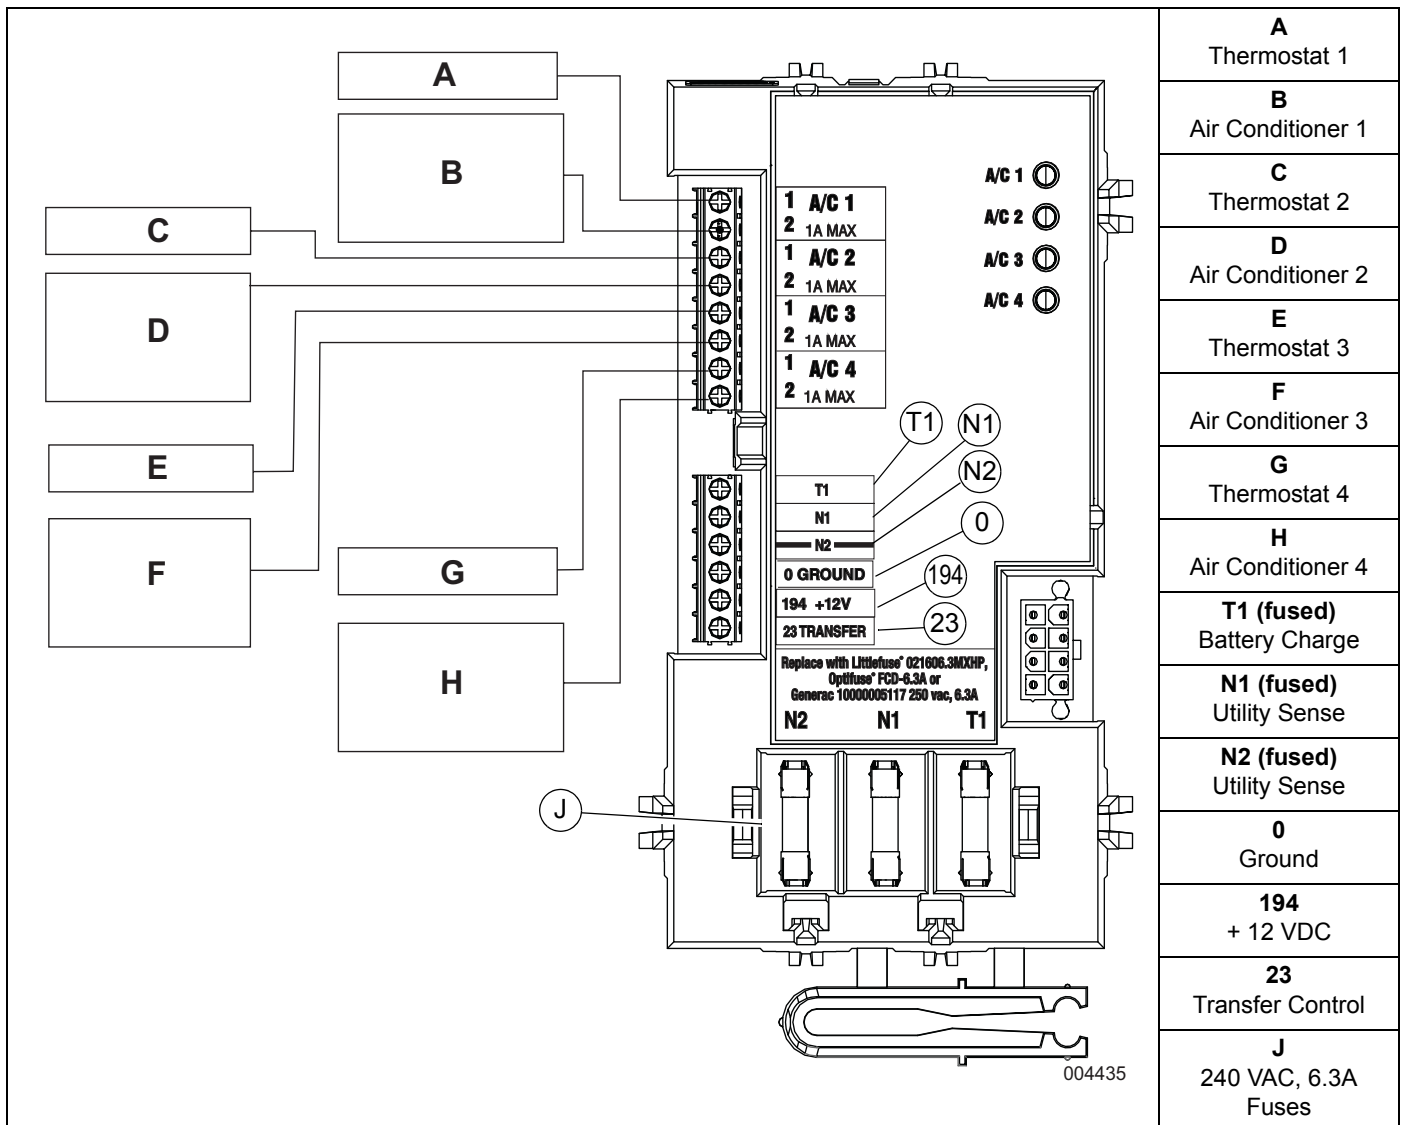

Figure 3-3. Typical SACM Connections
Control system interconnections consist of N1, N2, and T1, and leads 23, 0, and 194 (see Figure 3-3). The generator control wiring is a Class 1 signaling circuit. Reference instruction manual of specific engine generator for wiring connection details. Screw heads are straight bladed and cross-bladed, and should be tightened to 3.5 in-lb (0.4 Nm).
See Figure 3-3. The SACM can control an air conditioner (24 VAC) directly.
2. Connect the wire to the terminal strip terminals (A/C 1) on the SACM as shown in Figure 3-3. These are normally closed contacts which open upon load shed conditions. Route thermostat wire away from high voltage wires.